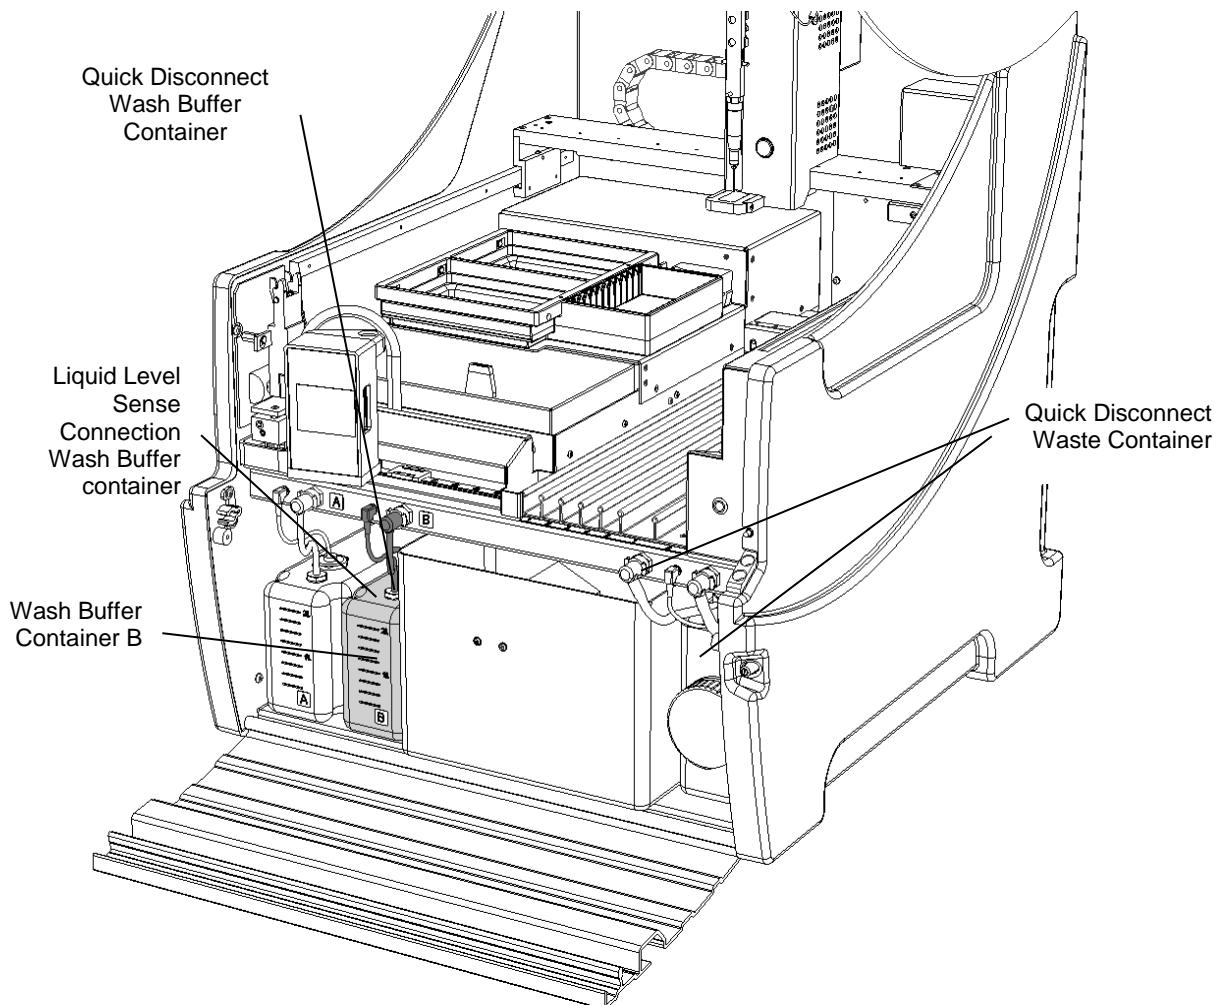

Figure 7-1: Wash Buffer Container B
- a. To remove the wash buffer container, disconnect the wash line by pressing on the metal tab of the quick disconnect fitting and pull gently on the wash line. Disconnect the liquid level sense connection by removing it from the connector socket (Figure 7-1).
1. Two Quick Disconnect fittings connect the liquid and vacuum lines to the Liquid Waste Container (Figure 7-1). Disconnect each one by pressing on the metal tab of the quick disconnect fitting and gently pulling on the line.
2. Disconnect the level sensor Float Switch Connector (Figure 7-1) by pulling it out of the connector socket.